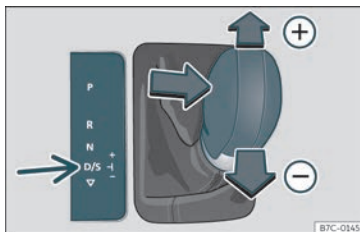

Fig. 201 Centre console: tiptronic transmission
- Push the lever forwards or backwards to move up or down a gear >>> **Fig. 201**.